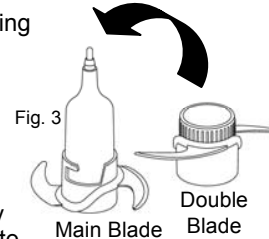
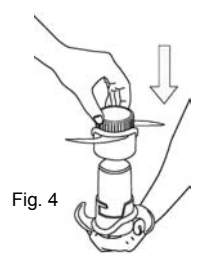

Fig. 3
Fig. 4
- To use as a double blade, carefully slip the separate blade over the shaft of the main blade. (Fig. 3 & Fig. 4)